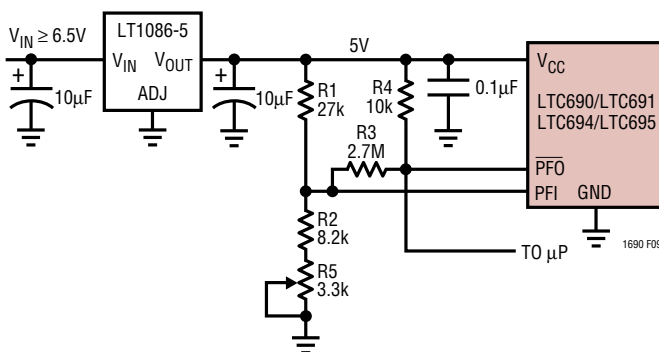

Figure 9. Monitoring *Regulated* DC Supply with the LTC690's Power-Fail Comparator
**Example 2:** The circuit in Figure 9 can be used to measure the regulated 5V supply to provide early warning of power failure. Because of variations in the PFI threshold, this circuit requires adjustment to ensure the PFI comparator trips before the reset threshold is reached. Adjust  $R5$  such that the PFO output goes low when the  $V_{CC}$  supply reaches the desired level (e.g., 4.85V).